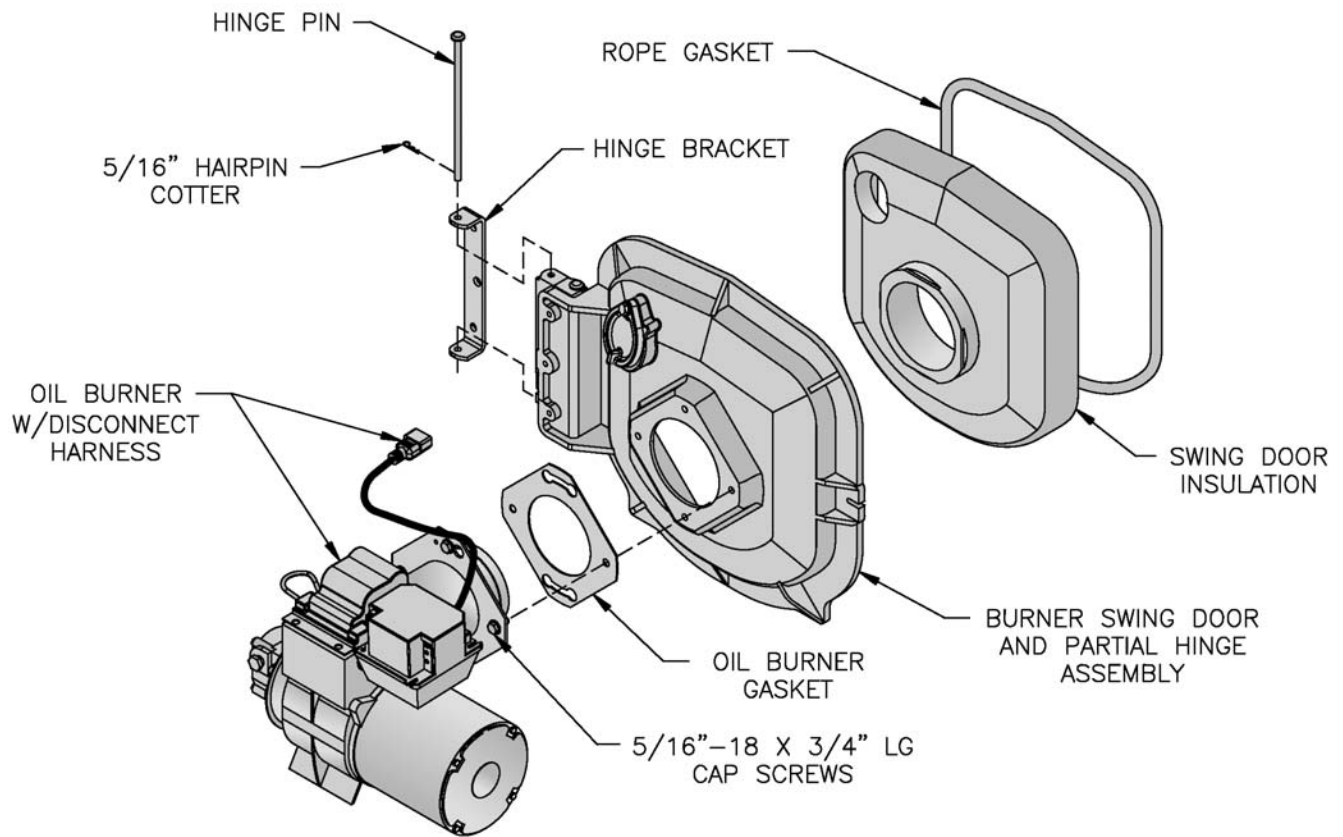

Figure 7: Oil Burner Installation (Beckett Burner Shown)
J. INSTALL BECKETT OIL BURNER. (See Figure 7).
- n. Swing igniter closed, rotate tabs and tighten two (2) igniter screws.
K. INSTALL CARLIN 102CRD OIL BURNER. (See Figure 7).
(See Figure 7).